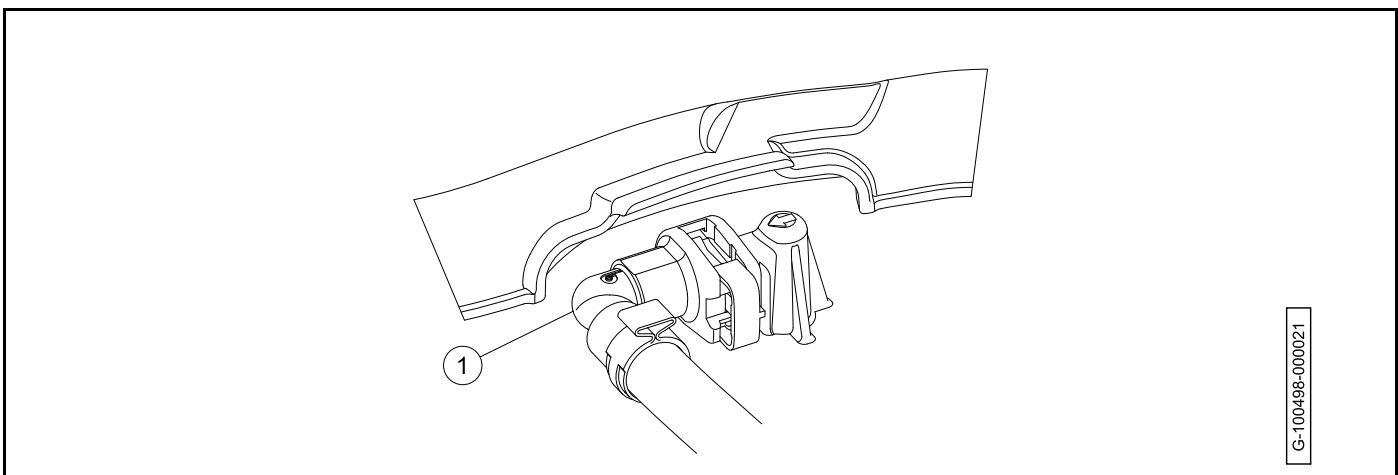

Figure 21-17
7. Rotate the fuel line connector (1) 180 degrees and connect it to the nipple (**Figure 21-17, Page 21-16**).